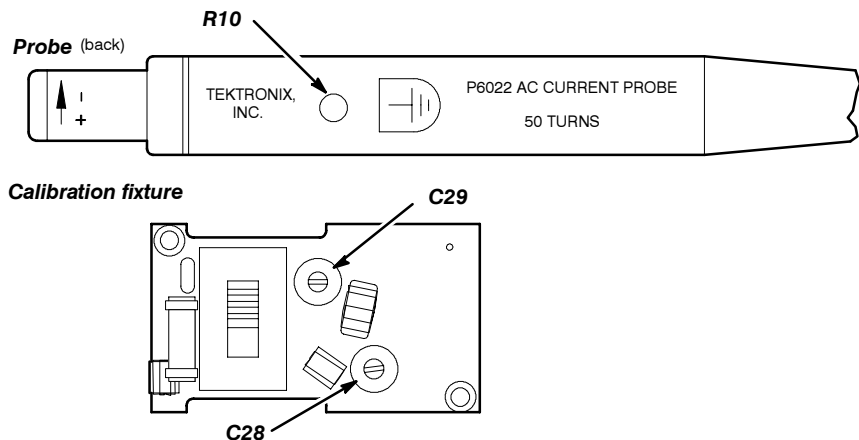

Figure 7: Location of Probe and Termination Adjustments
- **Step 7:** Adjust C28 and C29 (in the termination), and then R10 (through the hole in the probe body) to minimize aberrations and achieve the best flat-top response. See Figures 7 for the adjustment locations.